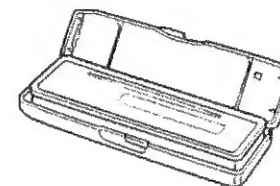

Fig. 4
3. Enclose for safekeeping the front panel that is removed in the supplied protective case. (Fig. 4)